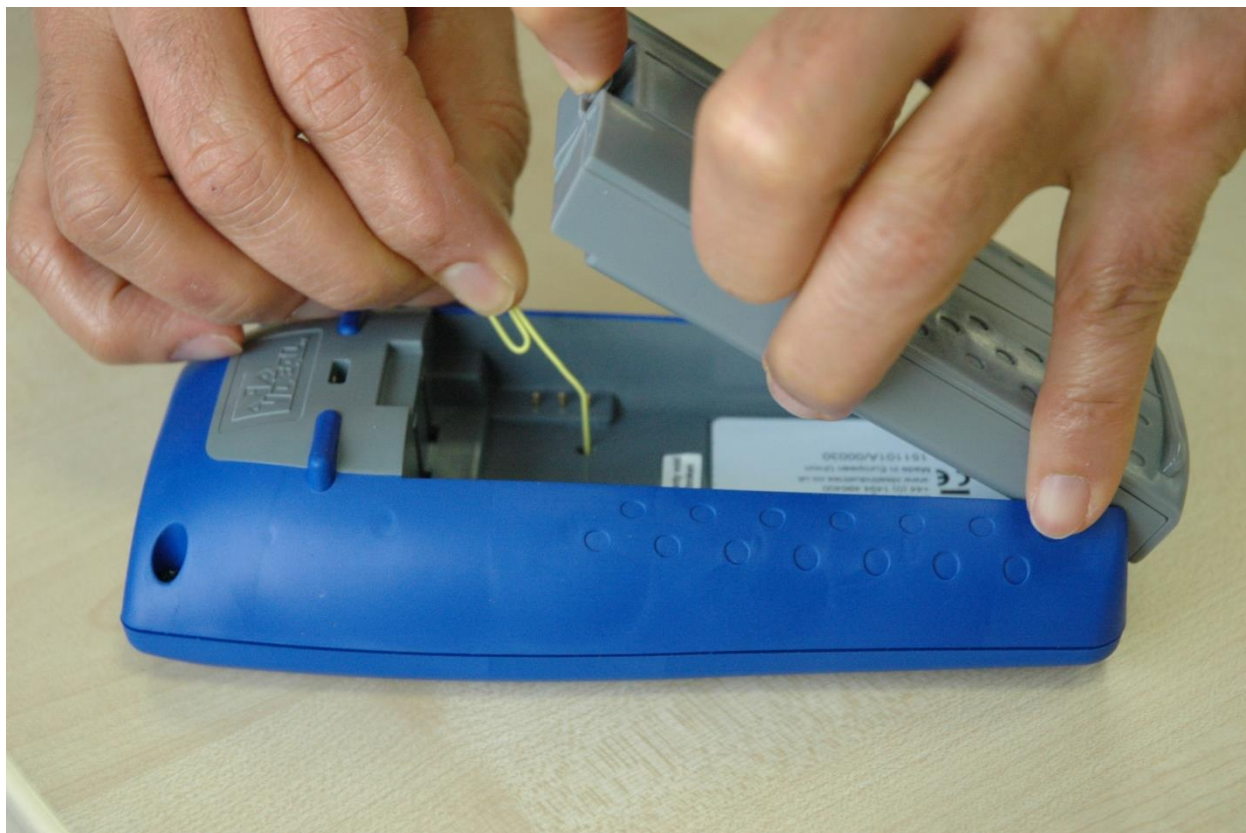

Fig 2
- Remove the power module or battery pack to access a small aperture in the NavITEK II (Fig 2).